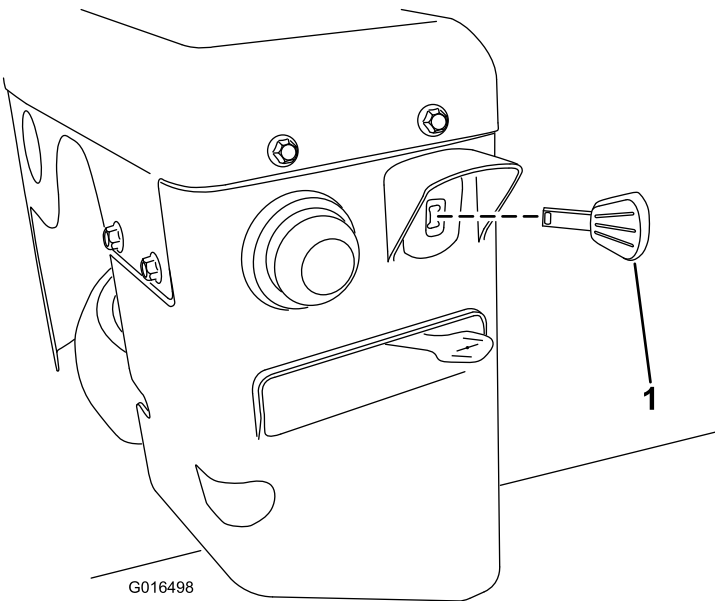

Figure 16
- 3. Fully insert the ignition key (Figure 16).